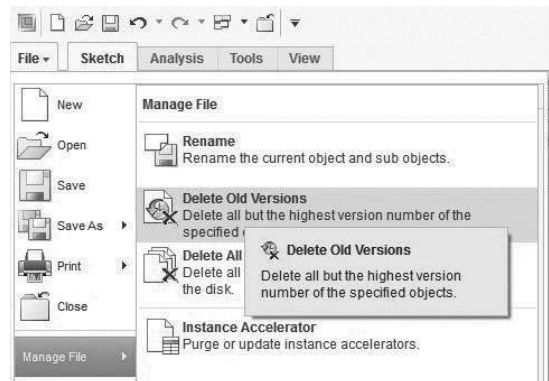

Figure 3-66 Delete Old Versions
Step 33: File>Manage File>Delete Old Versions. See Figure 3-66.